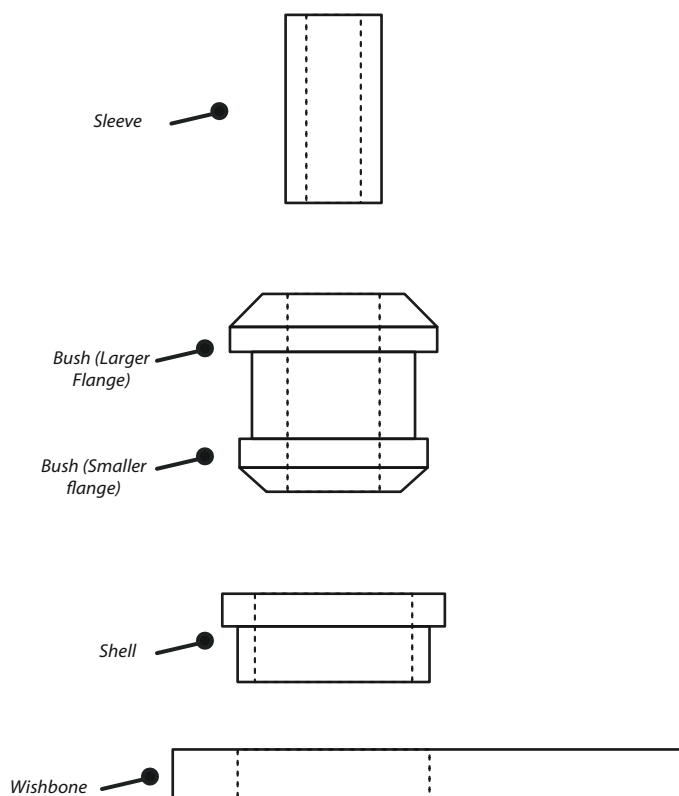

Figure 1
3. Press the Zinc-Plated Mild Steel Outer Shell into place in the wishbone, with the flange towards the top of the wishbone. (Figure 1)
4. Press the polyurethane bush into the outer shell from the top, with the small flange towards the bottom of the wishbone. Washing up liquid can be used to help lubricate this process. (Figure 1)
6. Push the sleeve into the bush, so that it sits flush with top of the bush. (Figure 1)